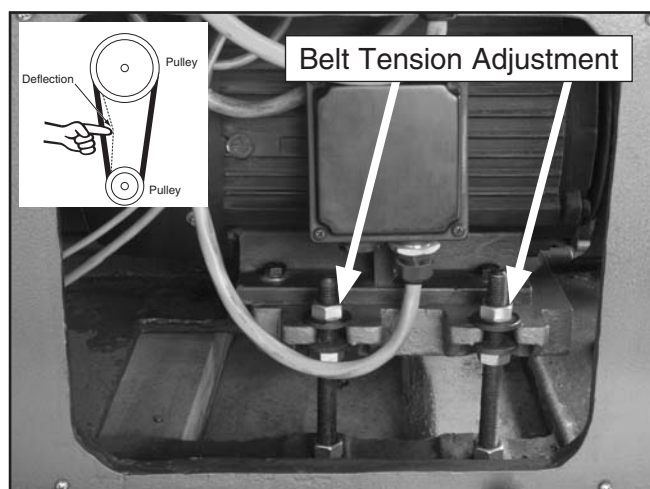

Figure 106. V-belt adjustment.
2. Open rear cover on the lathe base (**Figure 106**).
3. Use a 24mm wrench and adjust the belt tension hex nuts (see **Figure 106**) there is approximately 10mm belt deflection on each belt when pressed firmly in the center in between the pulleys.